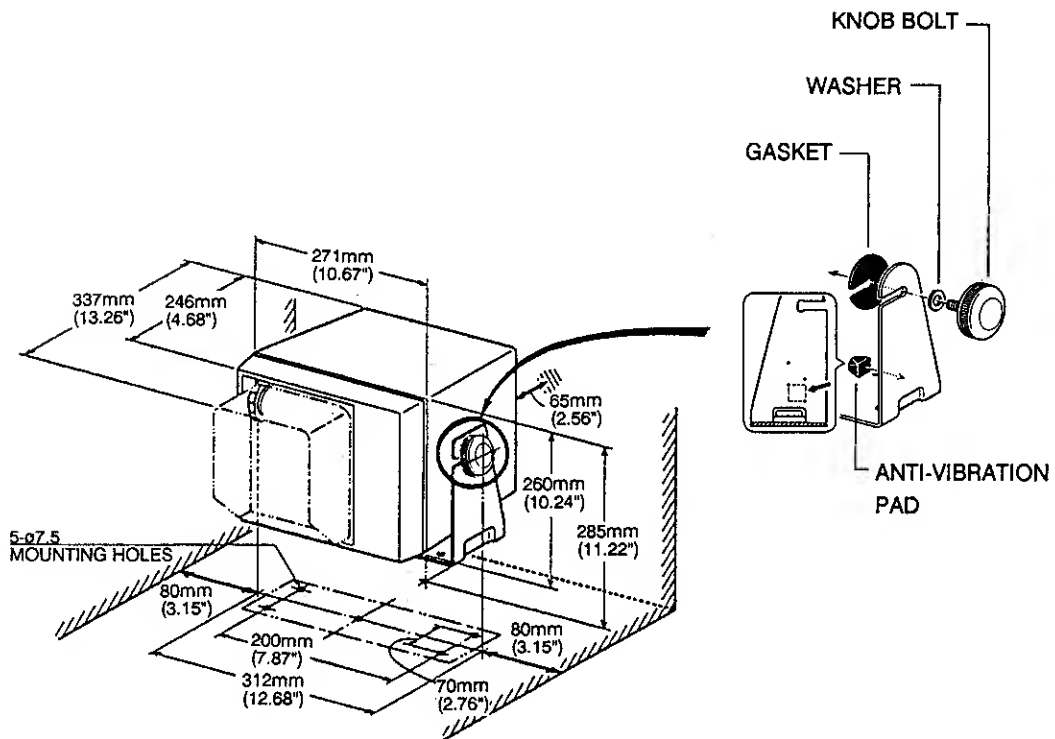

Figure 5-8 How to mount the display unit
- 1) Attach anti-vibration pads to the inside of the hanger as shown in Figure 5-8.